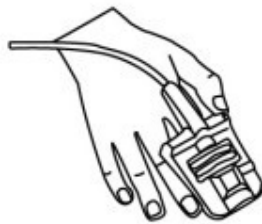

Figure5-2
Figure5-2 shows how to put your finger in the sensor.
- **Place the SpO₂ sensor cable at the backside of the patient hand as Figure 5-2. Make sure the fingernail is just opposite to the light emitted from the sensor.**